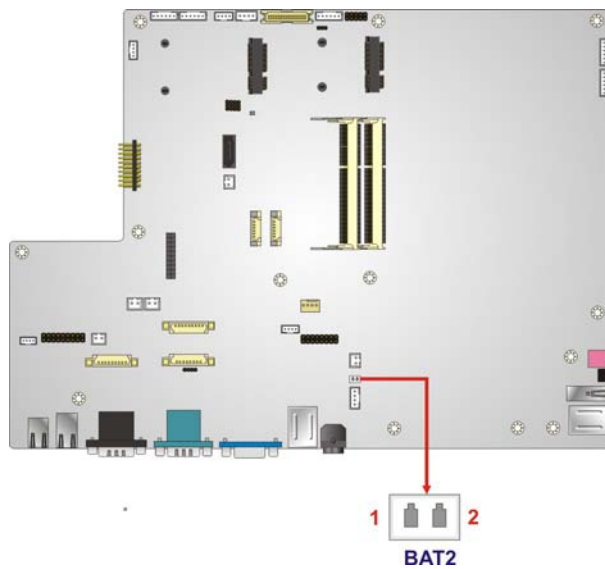

Figure 5-4: Battery Connector Locations
- CN Location: See **Figure 5-4**